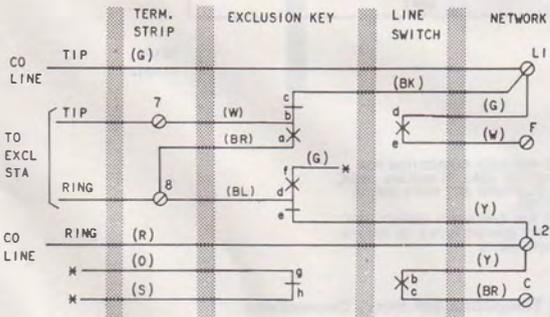

Fig. 17—Optional Feature Connections for 526-Type Telephone Set Bases
- (1) Remove dial from dial mounting brackets.
- (2) Mount bracket for circuit lock to outside of right dial mounting bracket
- (3) Refer to Fig. 17 for connection information.
- (4) Reinstall dial on mounting bracket.
- (5) Install faceplate with hole provided for circuit lock (refer to Table A for proper faceplate code).
- (1) Installation of the microswitch is the same as the circuit lock covered in 3.14.
- (2) The microswitch is intended for use with manual type telephone sets (see Table A for faceplate code).
- (3) Refer to Fig. 17 for microswitch connections and Table D for telephone set modifications for use with TD2 radio.